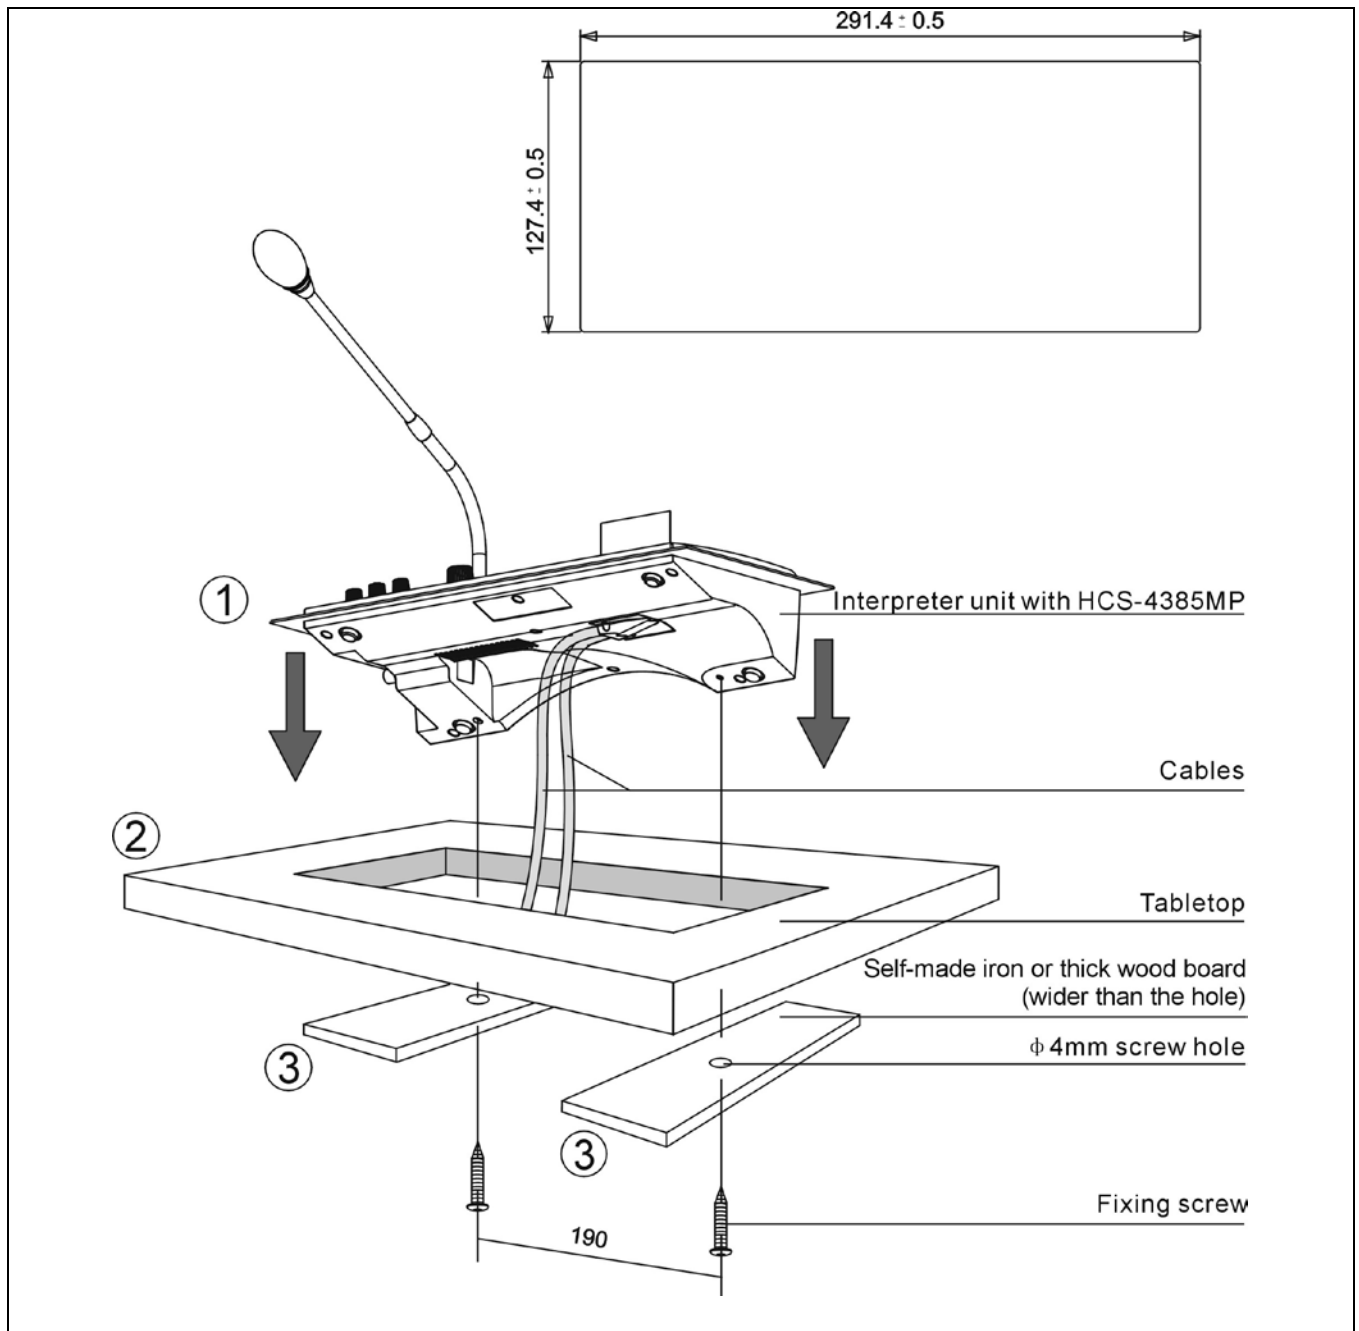

Figure 4.1.2 Installation diagram (unit: mm)
- a. Make a recess in the table according to the dimensions in figure 4.1.2;
- b. Drill two $\varnothing 4$ mm screw holes in the counterpiece according to figure 4.1.2. The distance between the centers of the screw holes is 190 mm;